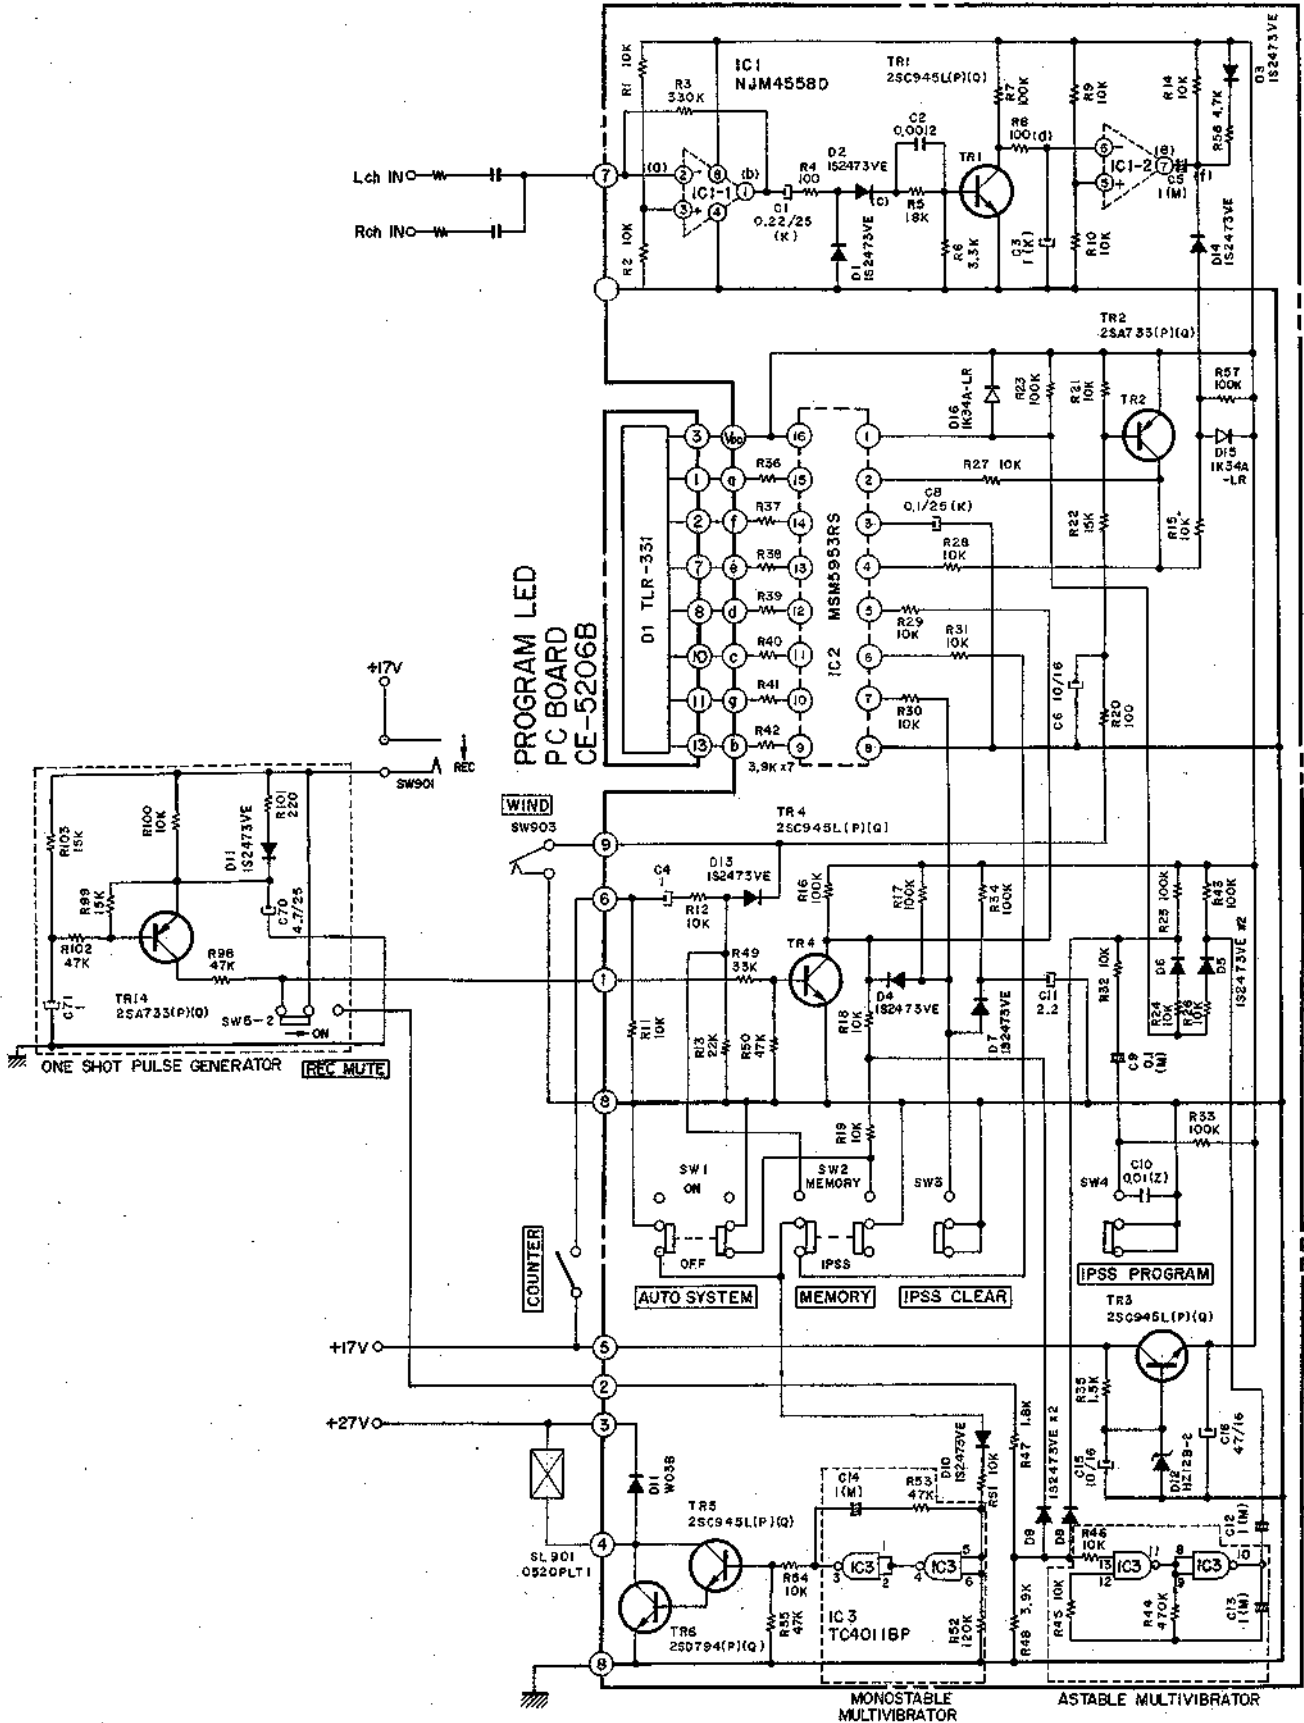

Fig. 6 IPSS/MEMORY SYSTEMS SCHEMATIC DIAGRAM
2. CIRCUITRY DETECTING THE NO SIGNAL PORTION (Refer to Figs. 6, 7, & 8)
OPERATION (Refer to Fig. 6)
(Refer to Fig. 6)